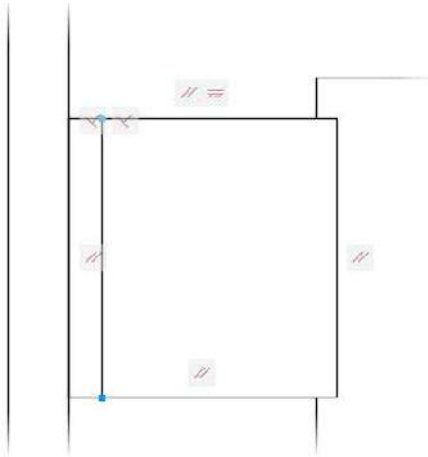

FIGURE 5.46: Geometric constraints inferred after drawing a line
6. Use the LINE command and the Nearest and Perpendicular object snaps to draw a vertical line, as shown in Figure 5.46.